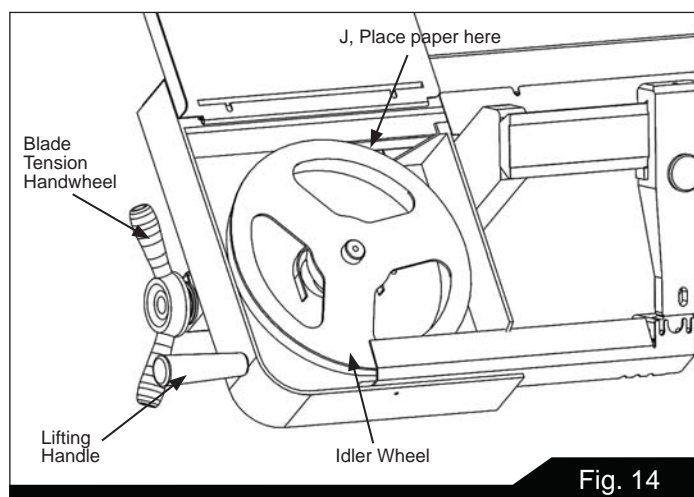

Fig. 14
6. Start the saw. Turn the *adjustment screws* (F) to tilt the idler wheel (Figure 14) until the blade is touching the shoulder of the idler wheel.
Put a 6-inch length of paper (J, Fig. 14) between the blade and the wheel as shown (the saw is still turned on). The paper should not be cut as it passes between the wheel shoulder and the blade.